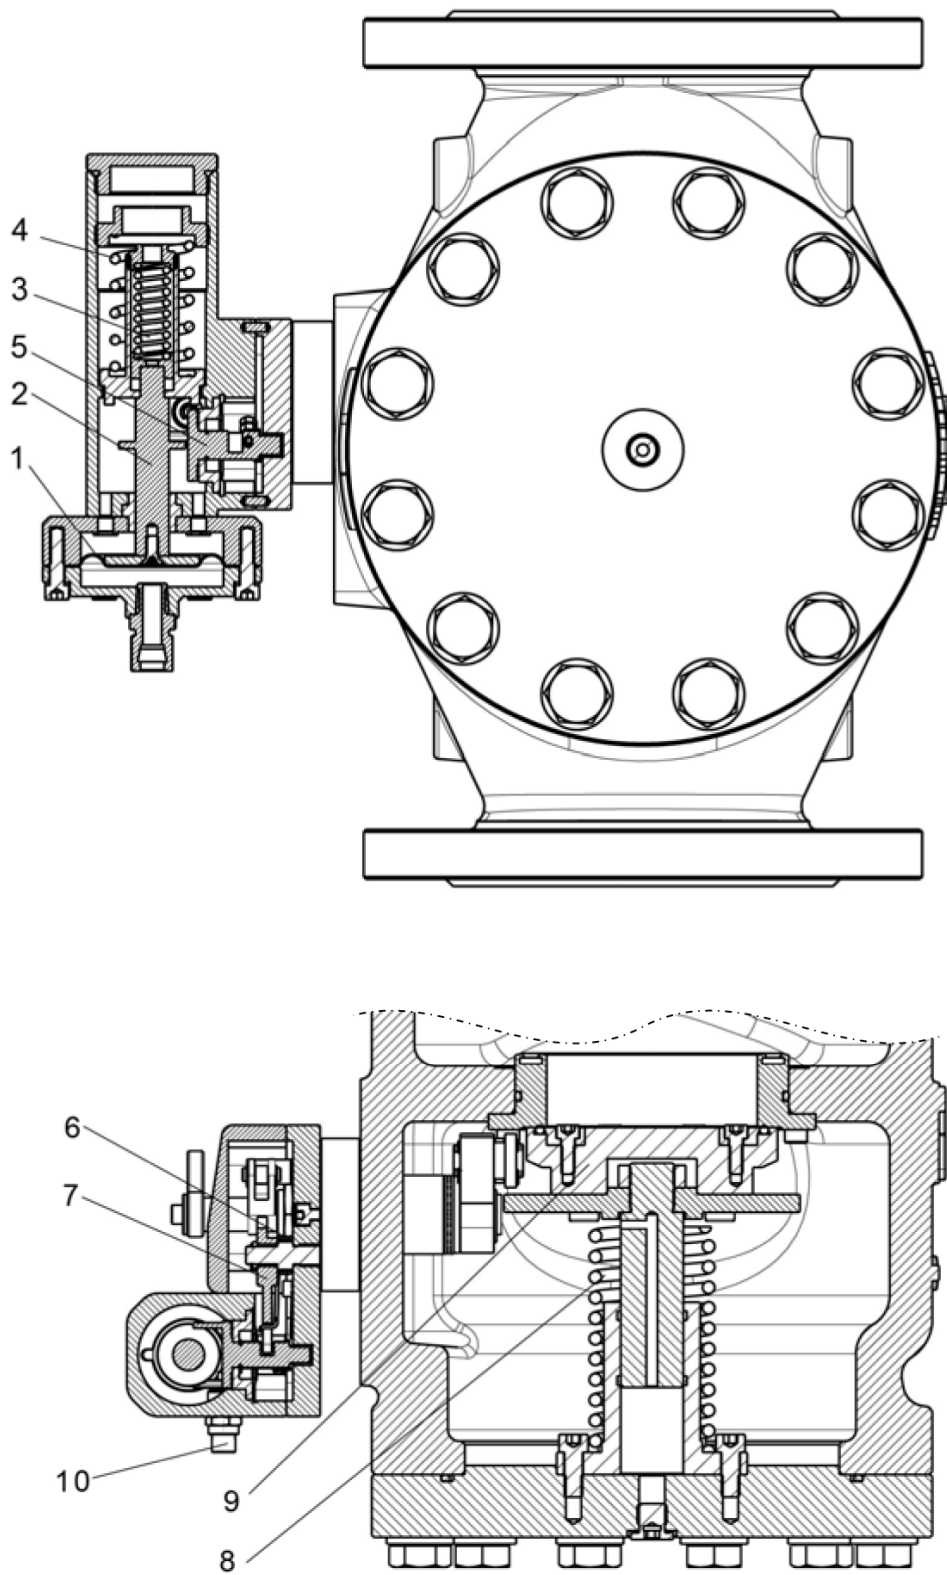

Figure 5 - SB 750 shut-off valve
The valve (Figure 3 and 5) working position is normally open. When the regulated pressure (P_a) is within the set range, the shut-off valve is open. The load of the P_a pressure on the diaphragm (1) of the servomotor (Figure 5) maintains the rod (2) in balance position. Thus, the cam (7) movement under the action of the spring is obstructed by the fork (5) whose radial movement is induced by the rod (2). When the P_a pressure exceeds the maximum allowable value, the force of the spring (4) is overcome, which causes the rod (2) to move. The fork (5) releases the cam (7) which moves under the action of the spring (6) and releases the valve plate holder (9). When the P_a pressure decreases below the minimum allowable value, the force of the spring (3) moves the rod (2) which rotates the fork (5) and releases the cam (7) which in its turn moves under the action of the spring (6) and releases the piston. The movement of the valve plate holder (9) under the action of the spring (8) closes the valve. Sealing is ensured by O-rings and seat valve plate.